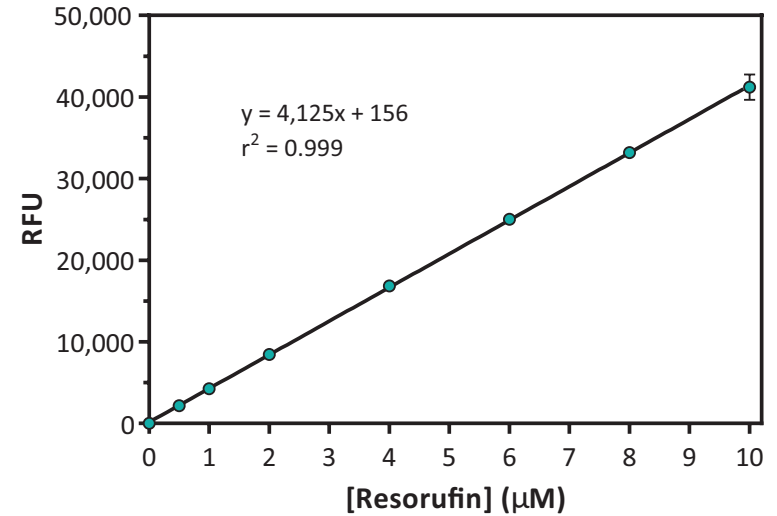

Figure 3. Resorufin standard curve
4. Plot the corrected fluorescence values (from step 3 above) of each standard as a function of the final concentration of resorufin from Table 1. See Figure 3, on page 19, for a typical standard curve.